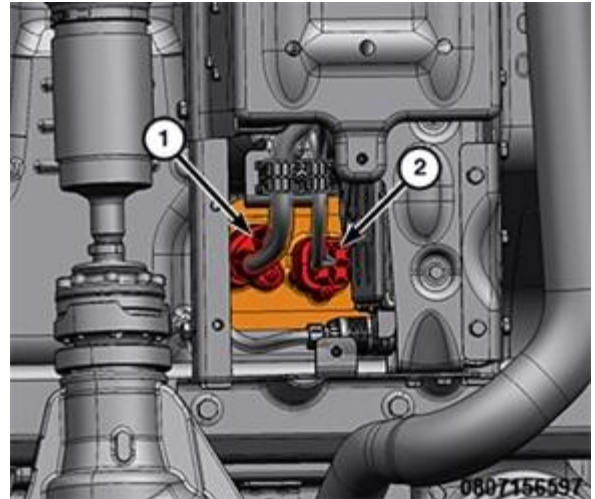

Figure 23 – HV Battery Wiring Connectors
- 17. Disconnect the HV wire harness connectors (1) and (2) from the HV battery (Figure 23).